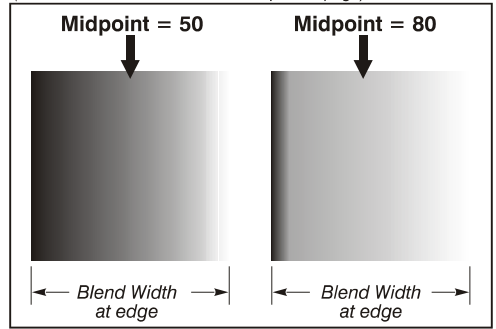

Figure 3.36. “Midpoint” Examples
- Blend Midpoint** determines the white level at the blend midpoint (the point equidistant between the beginning and end of the blend). Increasing the *Blend Midpoint* setting creates a blend that appears brighter than the rest of the image. Decreasing the *Blend Midpoint* setting creates a blend that is darker than the rest of the image. A setting of 50 means the midpoint is approximately 50% black—for best results in most applications, keep fairly close to this default (see Figure 3.36).